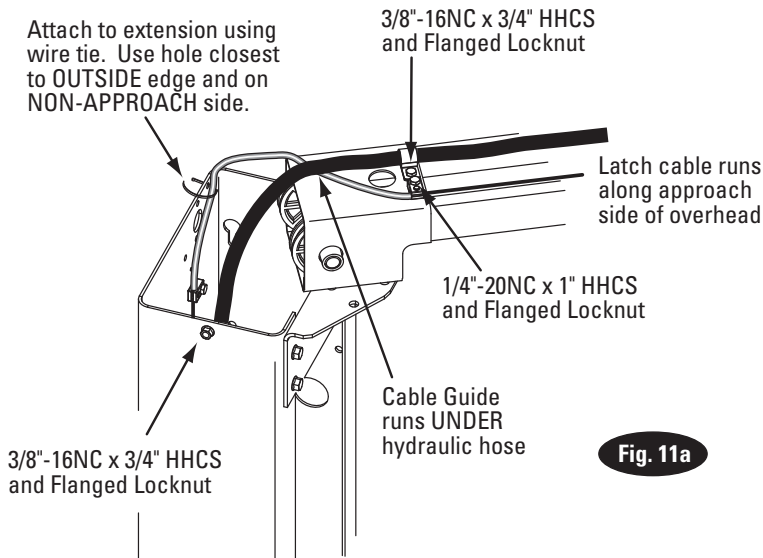

Fig. 11a
**NOTE:** Route Power Unit hose inside columns using slots provided at column base, Fig. 9b. Route Overhead Hose in column channel on outside of column, Fig. 9b. Overhead hose goes over top end of overhead assembly, Fig. 11a.
**IMPORTANT** Using wire ties provided, tie off cable guide to column extension as shown, Fig. 11a. Guide must be attached in hole closest to the outside edge of the column on the NON-APPROACH side.
- D) Attach latch cable conduit guide brackets to overhead as shown, Fig. 11a & Fig. 11b. Always use the holes on the approach side of the lift. HHCS should be in hole nearest the center of the overhead, Fig. 11b.
- E) Route cable up inside column and through the latch cable guide, Fig. 11a & Fig. 12.
- F) Continue routing cable to the left column latch cable guide, Fig. 11a & Fig. 12, routing the cable through the left column latch cable guide, Fig. 11a.